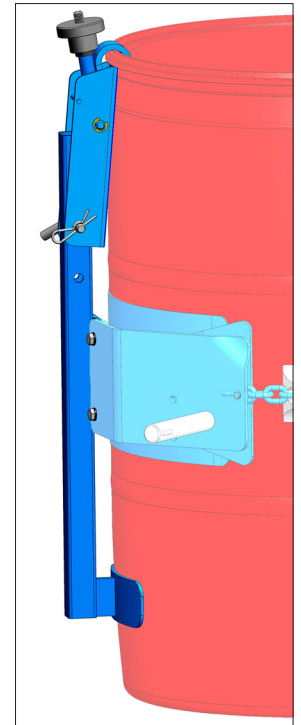

Figure 2.2
2. **Top Rim Clamp Kit # 4560B-P** to handle a RIMMED plastic drum (figure 2.2). Install the Top Rim Clamp Kit to handle a RIMMED plastic, steel or fiber drum with suitable top rim.